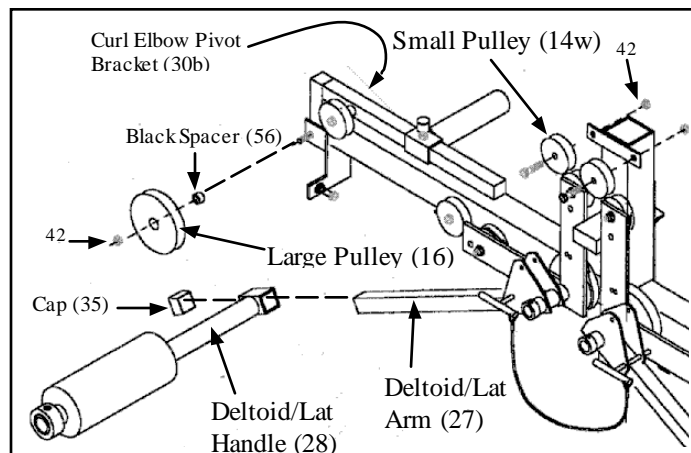

Figure 6
5. Check that the *Washer* (24) and the *Shaft Collar* (25) are resting on the square tab welded to the *Post Bracket*.
6. Tighten the *Shaft Collar* (25) on the *Crankshaft* using the Allen wrench on the black set screw in the shaft collar.
C. Deltoid/Lat Slider Assembly (Figure 6)
1. Slide the *Deltoid/Lat Handle* (28) onto *Deltoid/Lat Arm* (27).
2. Push the square *Cap* (35) onto the end of each *Deltoid/Lat Arm*.
3. Remove the *Lock Nuts* (42) on the bolts at both ends of the *Deltoid/Lat Slider* (6).
4. Mount the separately packaged *Large Pulleys* (16) making sure that the black spacers (56) that were on the bolts are behind each pulley.